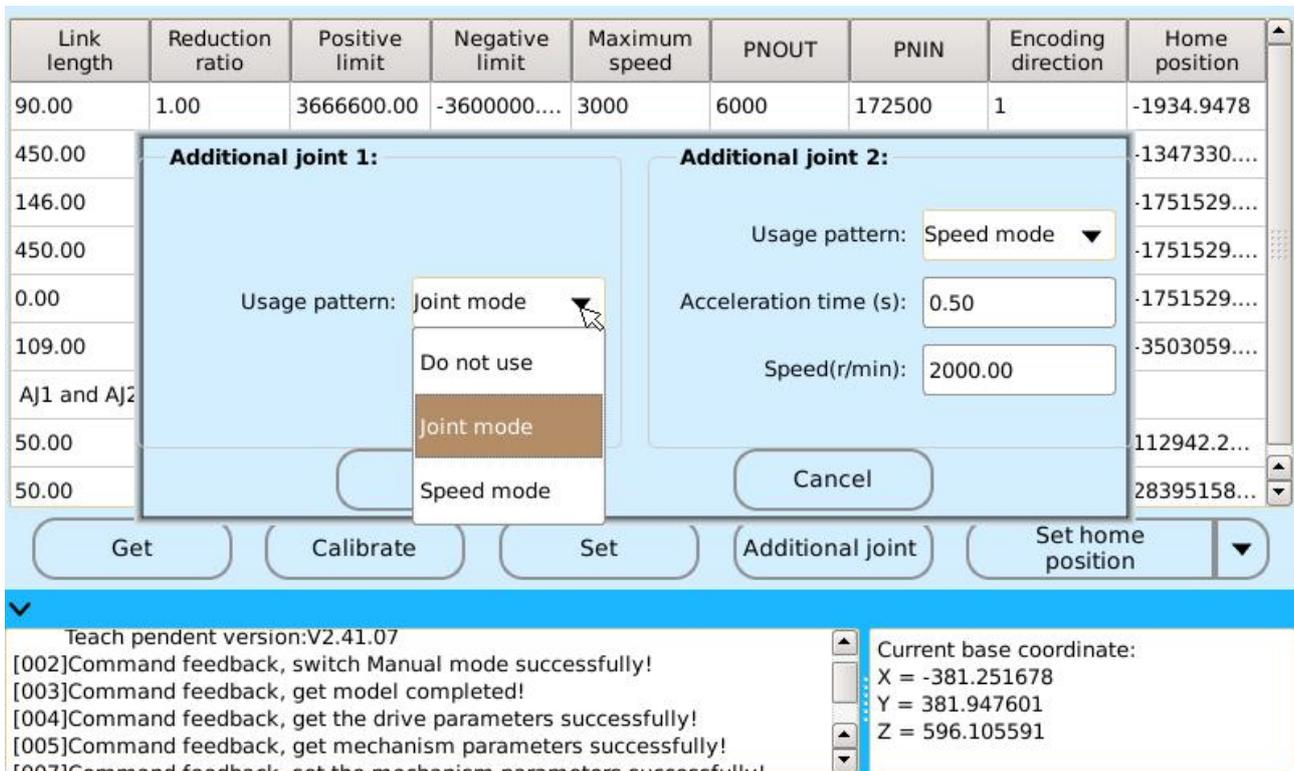

Figure 3.5 “additional axis” Usage Pattern
(1) “Additional shaft” use mode: As shown in Fig. 3.5, the "additional axis usage mode" is divided into three modes: "not used", "joint mode", and "speed mode".